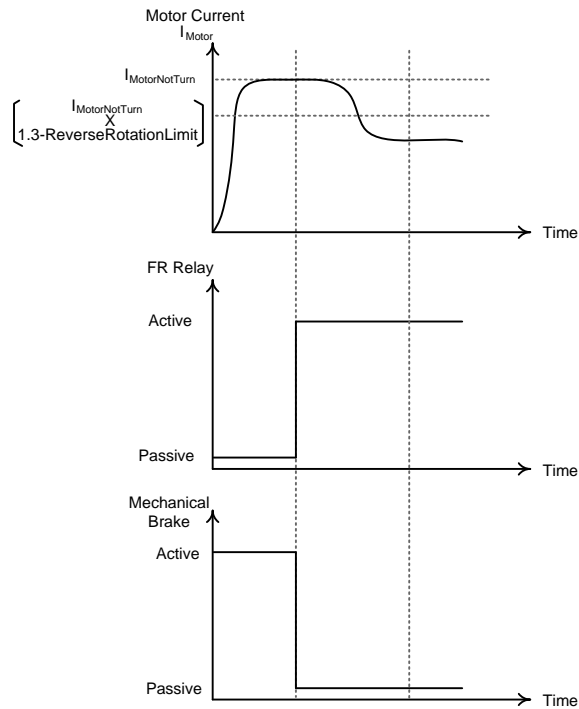

Figure 4: The principle of "Reverse Rotation Limit" parameter.
- 1.3. Reverse Rotation Limit: GuvenCE Emergency Rescue System decides the rotation of the motor by sensing the motor current (See Figure 4). If the motor current (I_{Motor}) is smaller than "1.3ReverseRotationLimit" value percent of the motor current while the motor can not turn ($I_{MotorNotTurn}$), GuvenCE thinks that motor is rotate and continues the rescue operation.